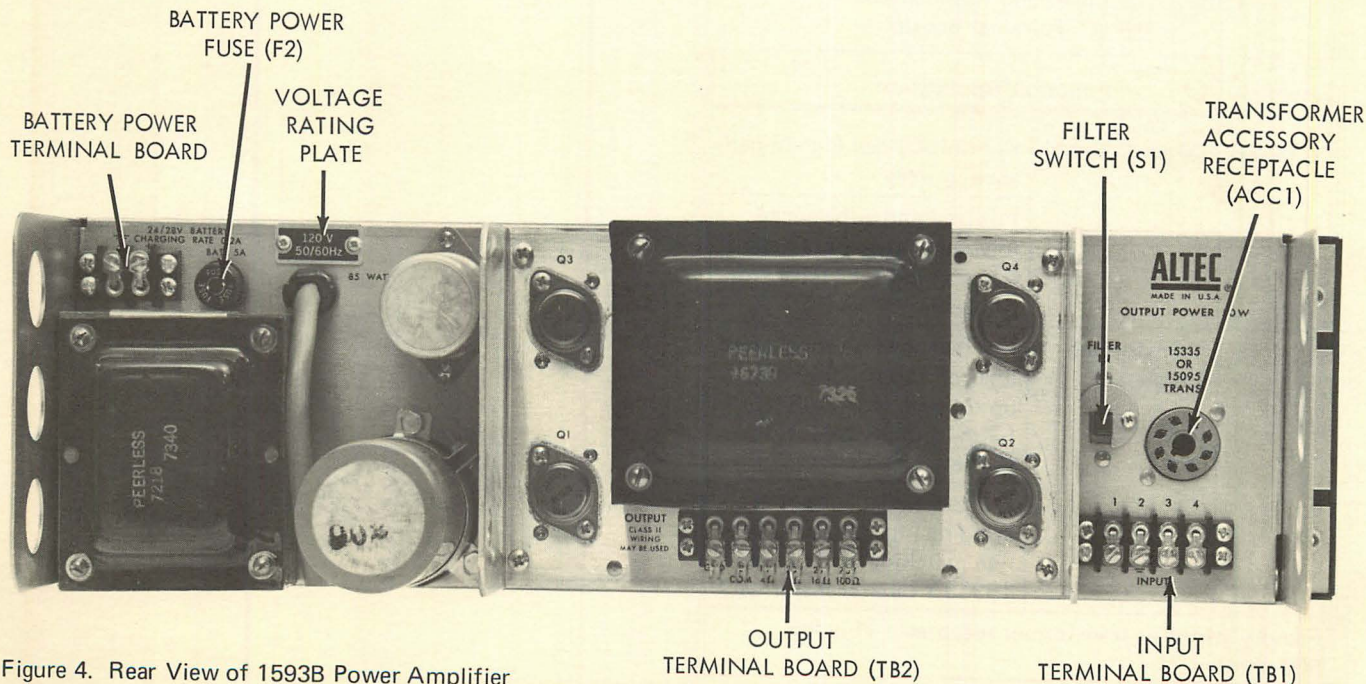

Figure 4. Rear View of 1593B Power Amplifier
1 to 2 and 3 to 4 on TB3). The power input nameplate, adjacent to the power cord on the chassis, is mounted to show the appropriate side specifying the connections (see Figure 4). Verify that line voltage is in accordance with the voltage rating before connecting the 1593B to line power.
- Step 4. Remove voltage-rating plate (see Figure 4) from chassis, reverse and reinstall to show 240V ac rating.
If desired, the 1593B may be connected to an external 24/28 volt battery with minus (-) as ground. Terminals for the dc power connections are on TB4 (see Figures 4 and 10). If ac power fails, transfer to dc power is instantaneous, automatic and silent. A built-in charging circuit supplies a 100 mA trickle current to maintain battery charge during ac operation. The battery power supply is not operated by the primary power ON-OFF switch on the front panel. If switching of battery power is desired, an external relay or switch should be provided by the user.
Input connections may be either direct-coupled or transformer-isolated at the INPUT terminal board (see Figure 4). Direct coupling is accomplished by connecting the input leads (shielded conductor recommended) to terminals 1 and 2. Terminal 2 is ground. Table I lists the terminals and applications of the INPUT terminal board.
For transformer-isolated input, a plug-in 15095A or 15335A Line Transformer must be plugged into receptacle J1 (see Figure 4). The input leads are connected to terminals 3 and 4 of the INPUT terminal board.
Output transformer taps provide connections for 4-ohm, 8-ohm and 16-ohm speakers, plus a 70.7-volt speaker distribution system (see Figure 4). For 25-volt speaker distribution systems, use the 16-ohm tap. Connect to the terminal of desired impedance and terminal 5 (common). Terminal functions and designations are listed in Table II. If stray electrostatic radiation causes interference, strap terminal 5 (common) to terminal 6 (ground).
A FILTER IN-OUT switch is located on the rear of the chassis (see Figure 4). The switch is placed in the OUT position when the 1593B is shipped from the factory.
The ac primary power fuse is mounted on the front panel (see cover photo). The battery power fuse is located on the rear of the chassis (see Figure 4). If fuse replacement is required, determine and correct any cause of failure before replacing fuse. Install an identical fuse (see **PARTS LIST**) by unscrewing fuse holder, replacing fuse and resealing fuse holder.